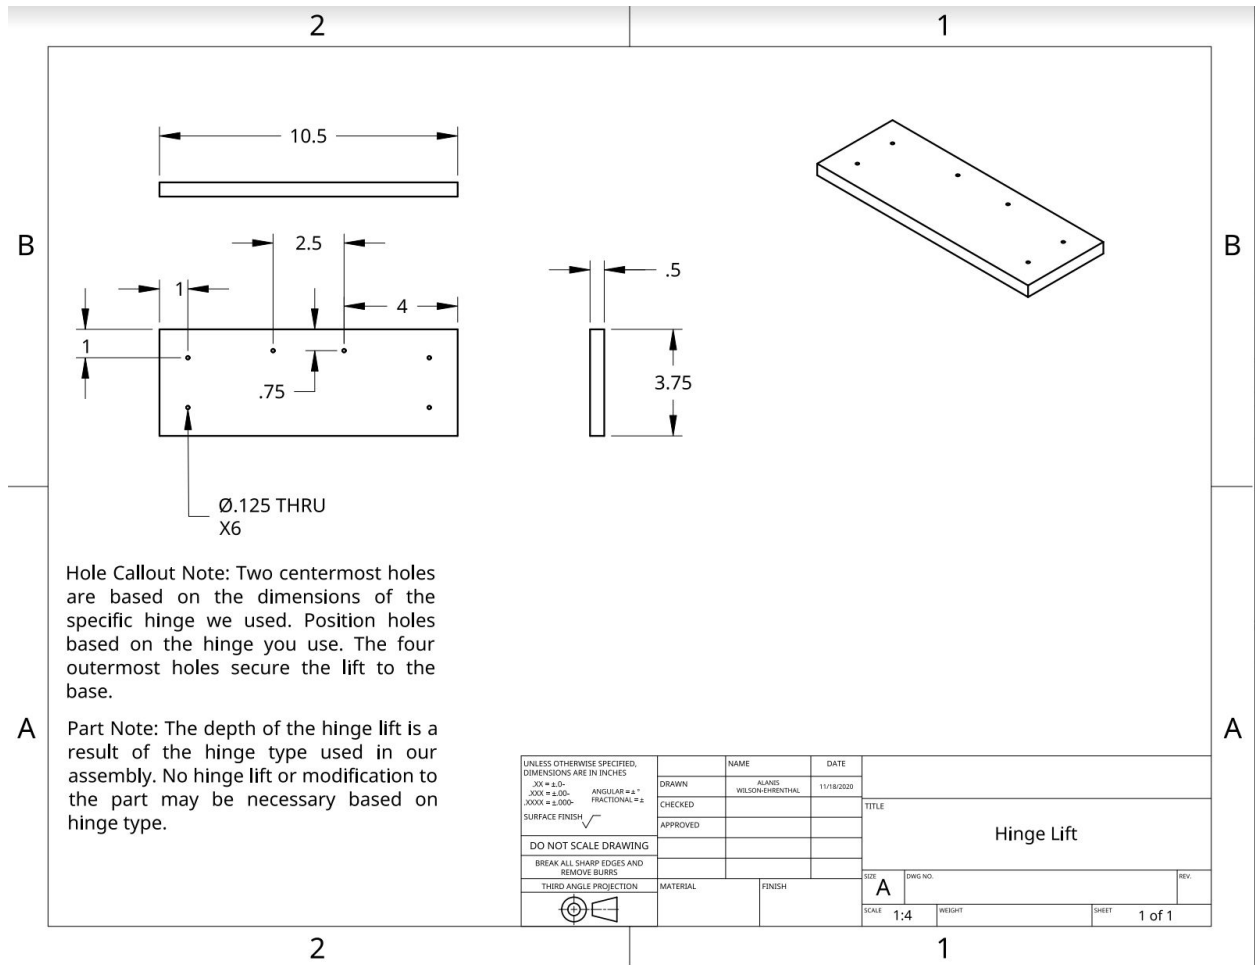

Figure 4
9. On the Hinge Lift, Drill two holes through the board for the hinge (see Figure 4)
11. Drill four more holes and appropriate countersinks in the same fashion as steps 7 and 8, this time in the corners of the Hinge Lift (see Figure 4)